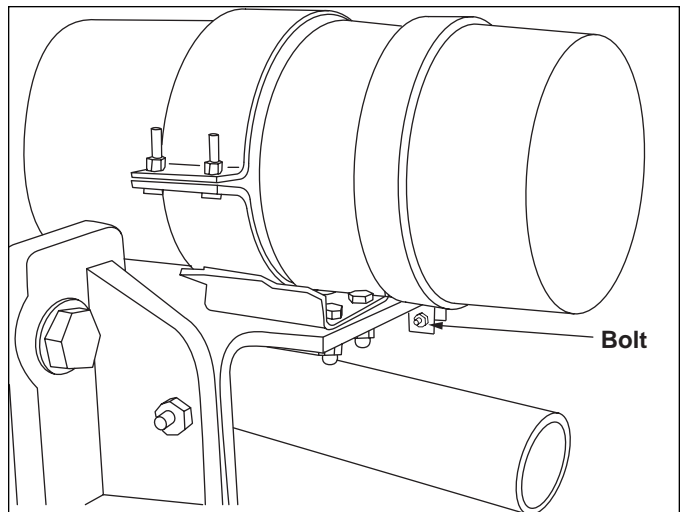

Figure 4-4. Engine Air Filter
2. Turn the air cleaner cover bolt (Figure 4-4) to remove the air cleaner cover and gasket.